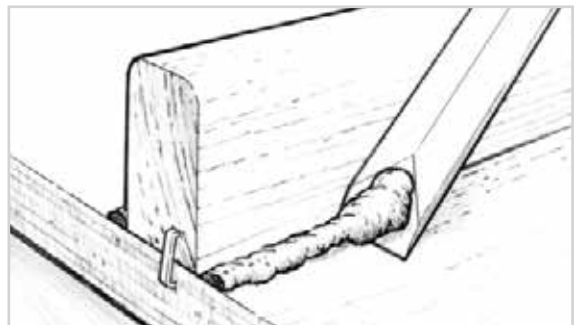

Figure 8-11 Remove excess epoxy before it begins to gel. A sharpened mixing stick makes an excellent cleanup tool.
4. Remove or shape excess adhesive that squeezes out of the joint as soon as the joint is secured with clamps. A wooden mixing stick with one end sanded to a chisel edge is an ideal tool for removing the excess (Figure 8-11).